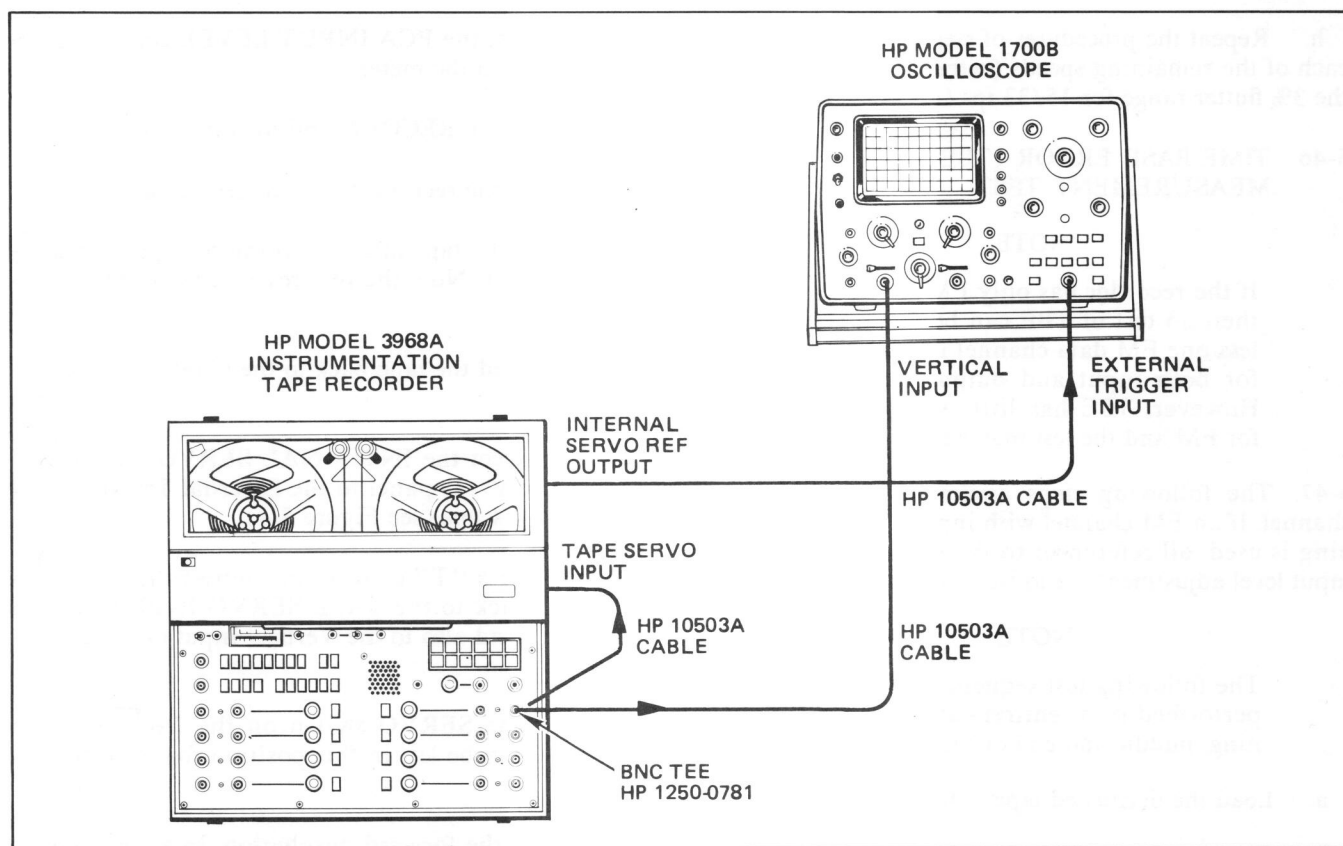

Figure 5-4. Time Base Error Test Setup
m. Connect the INTERNAL SERVO REF OUTPUT jack on rear panel to the External Trigger Input of the oscilloscope (see Figure 5-4).